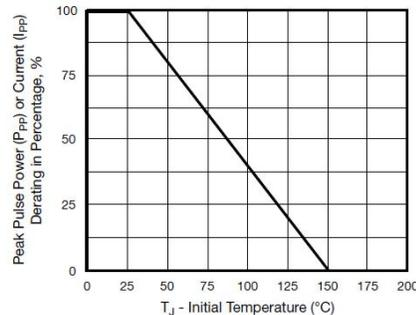

Fig. 2 - Pulse Power or Current vs. Initial Junction Temperature
- (1) Non-repetitive current pulse, per fig. 3 and derated above TA = 25 °C per fig. 2. Rating is 300 W above 78 V
- (2) Mounted on 0.2" x 0.2" (5.0 mm x 5.0 mm) copper pads to each terminal